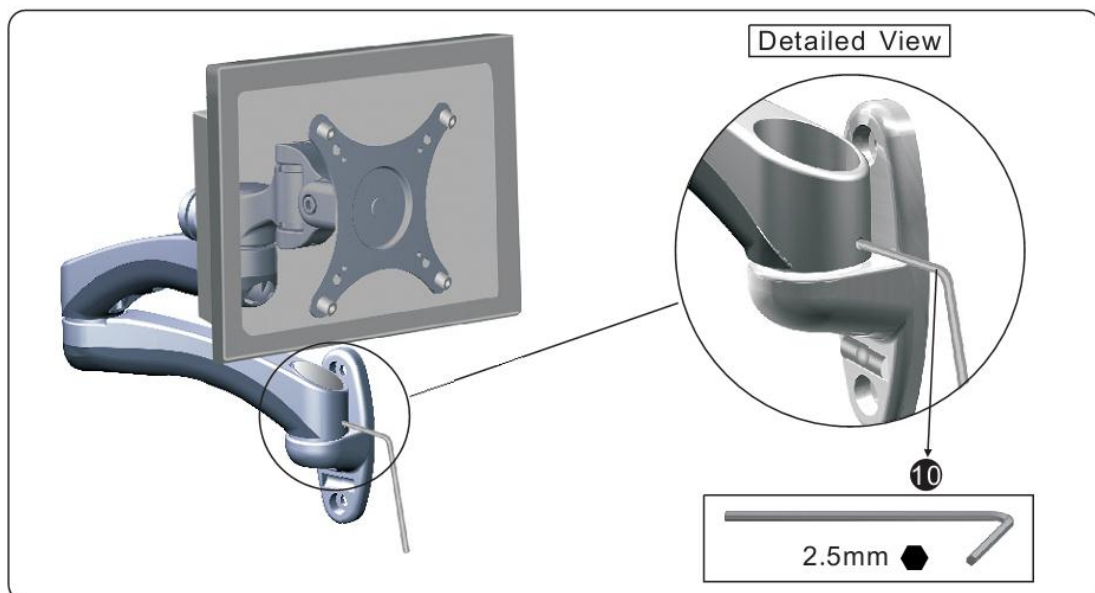

Figure 3-2
2. Once the Wall Mount LCD Arm Assembly is in desired position, tighten with Hex Grub Screw using the Hex Allen Wrench 2.5mm (10) so the assembly is firmly in place (See Figure 3-2).